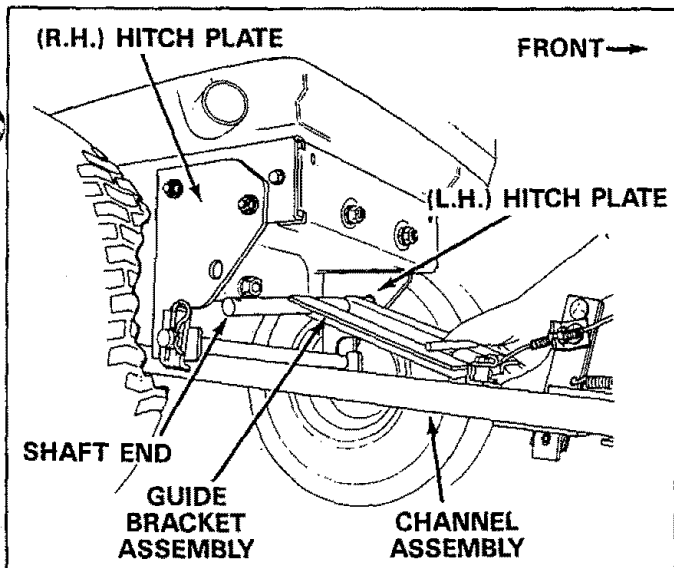
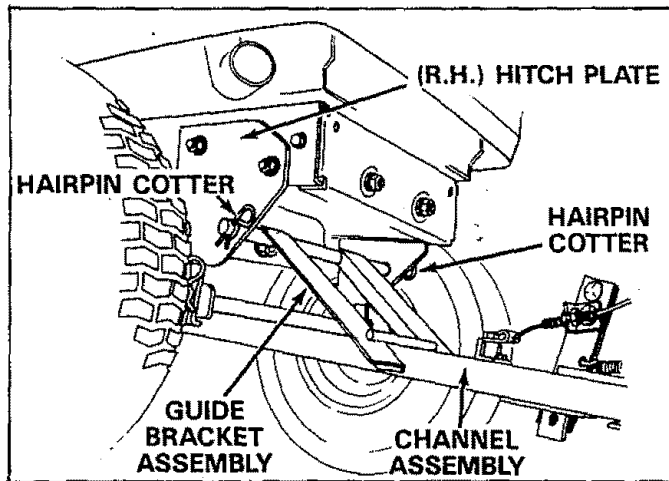

FIGURE 24
FIGURE 25
22. Assemble guide bracket assembly shaft end into the left hand hitch plate. See figure 24. Slide guide assembly back to the right and into the hole in the right hand hitch plate, and secure with a hairpin cotter on each end. See figure 25. Lower front end of guide bracket assembly to straddle channel assembly. See figure 25.